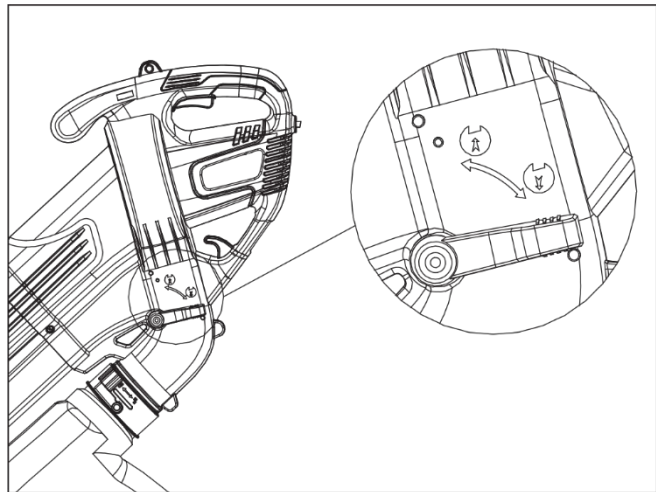

Fig. 5
3. Move the lever to the down position to use the product as a blower (fig. 5).